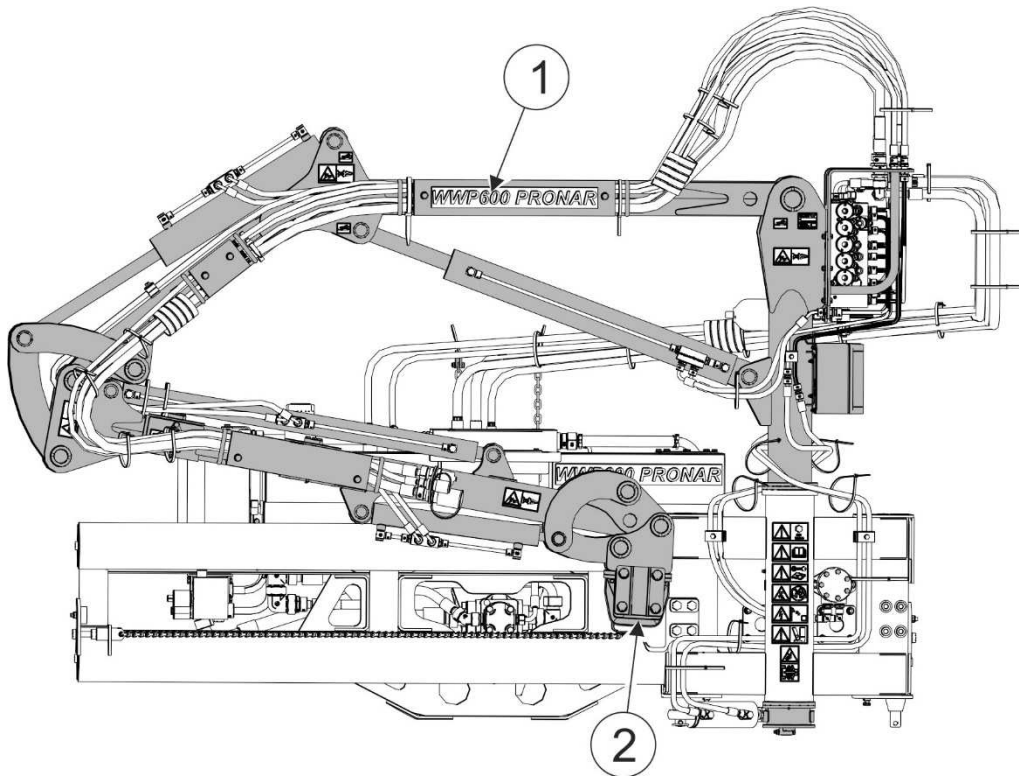
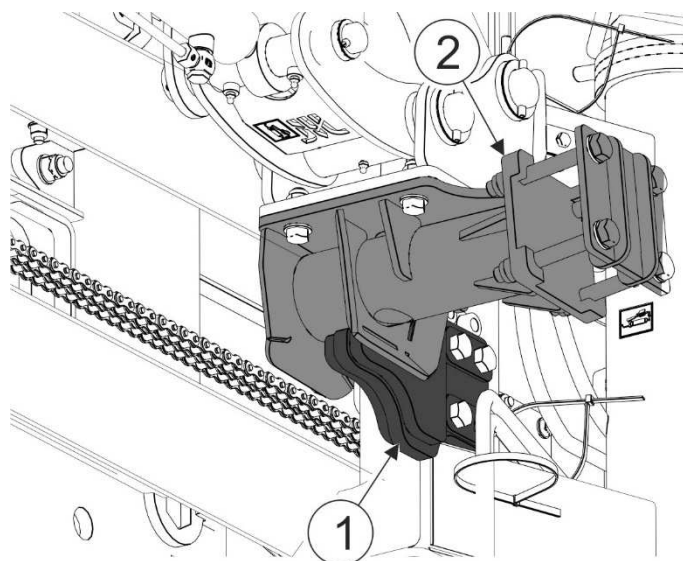

FIG. 4.3 Transport position
FIG. 4.4 Mounting of the working head connection on the working head hitch.
For transport to place of work and back, set the multifunction arm to transport position (FIGURE 4.3). In this position, working head connection (2) is mounted on working head hitch (1) (FIGURE 4.4)